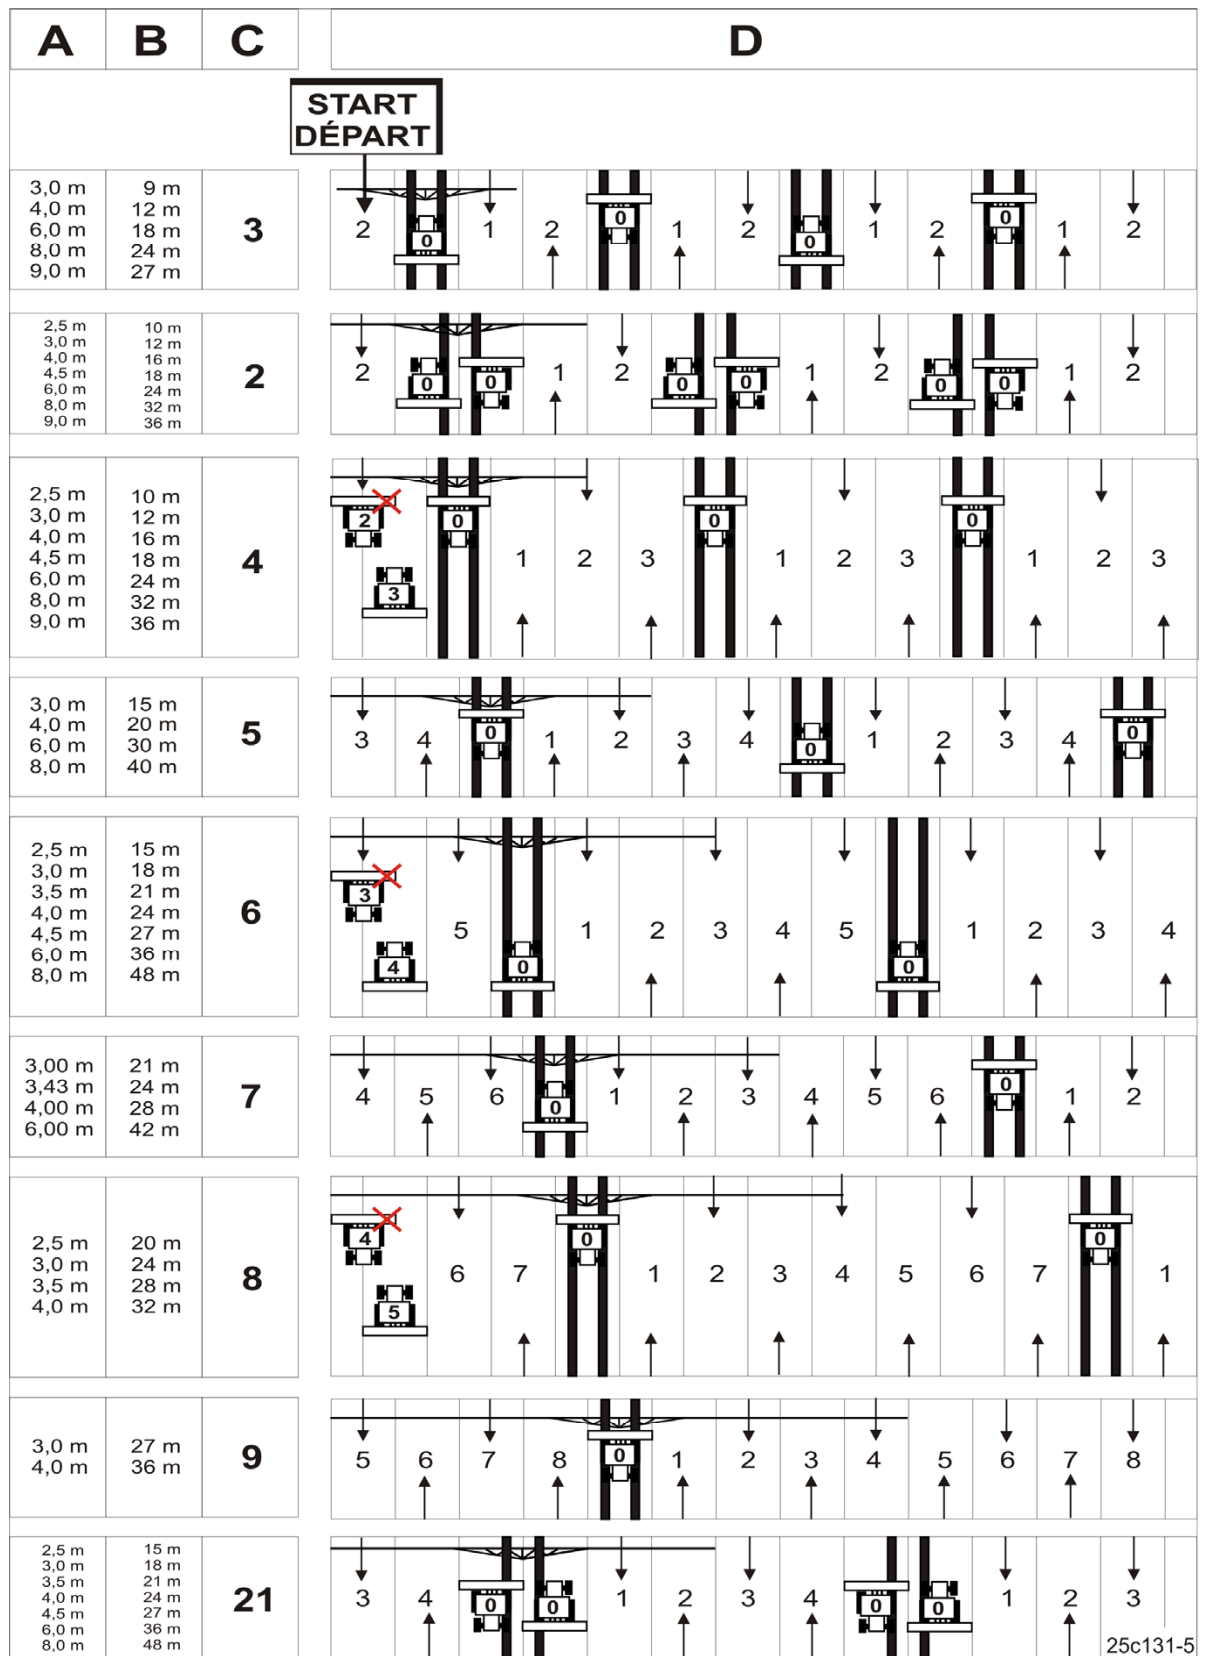

Fig. 74
The creation of tramlines is shown using various examples (see Fig. 74):
1. In the following table (Fig. 74), look for the following: